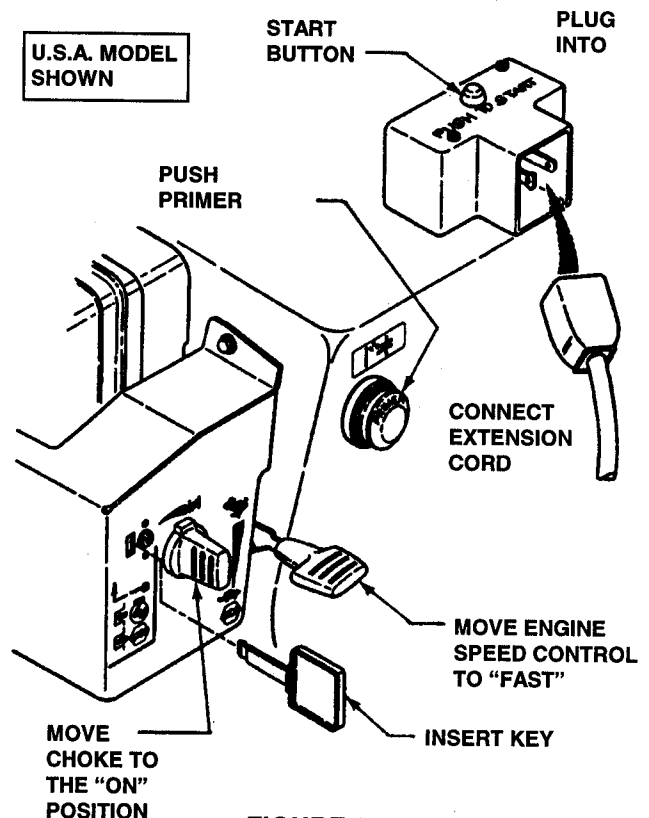

FIGURE 2.8
2. Insert key into ignition switch. See Figure 2.8.
4. Move choke control to the choke, "ON" position. See Figure 2.8.
5. Move engine speed control to the "FAST" position. See Figure 2.8.
7. Push the electric starter button. **DO NOT** hold button for more than 20 seconds to avoid damaging the starting motor. See Figure 2.8.